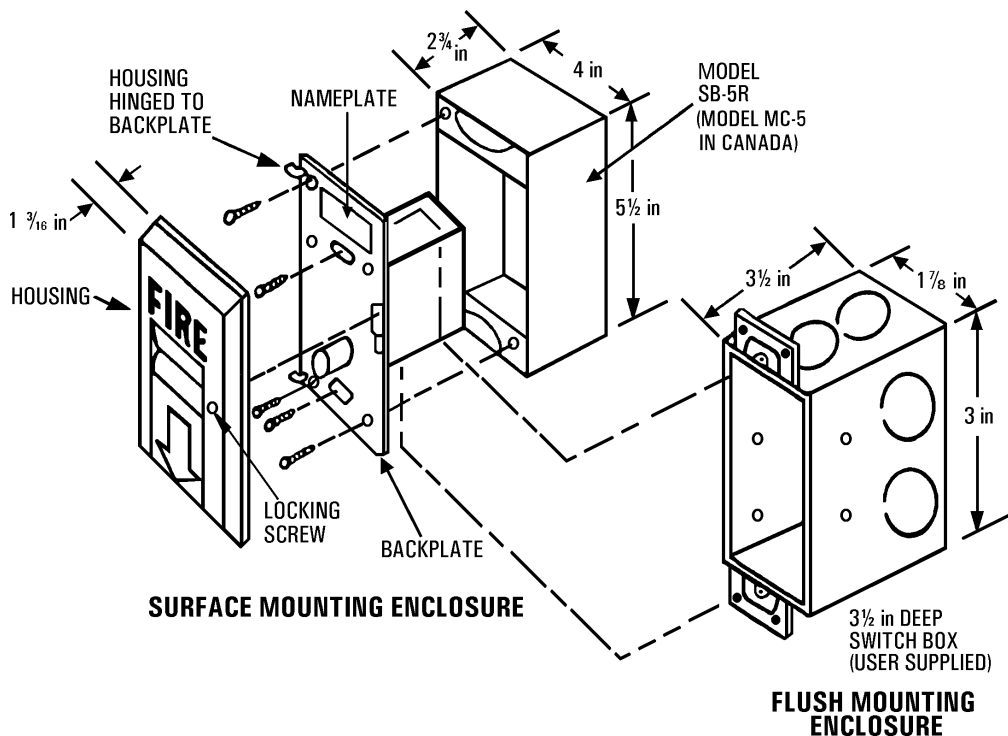

Figure 3
The MSI-10B manual station housing has a pull down lever that locks in position after releasing a spring loaded switch (See Figure 3). To indicate the manual station is activated, the pull
4. Record the device address on the nameplate label located on the MSI housing (See Figure 3).
For surface mounting, mount the backplate to a Model SB-5R Backbox (in Canada use a Model MC-5 Backbox) as shown in Figure 3.
7. Install the MSI. (Refer to Figure 3.)